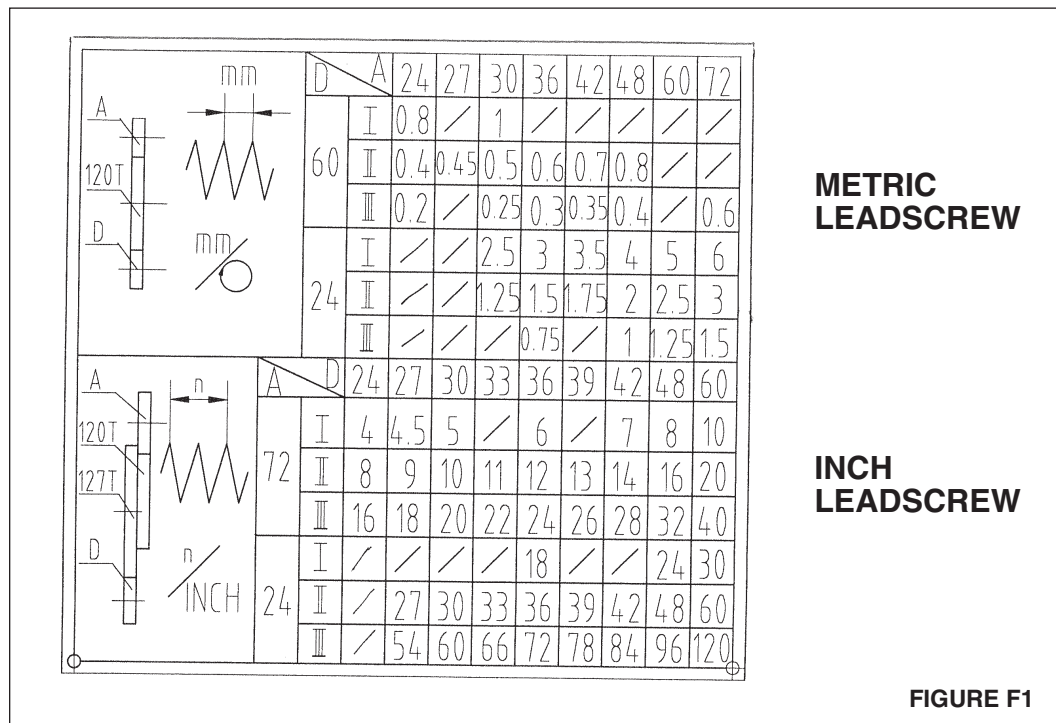
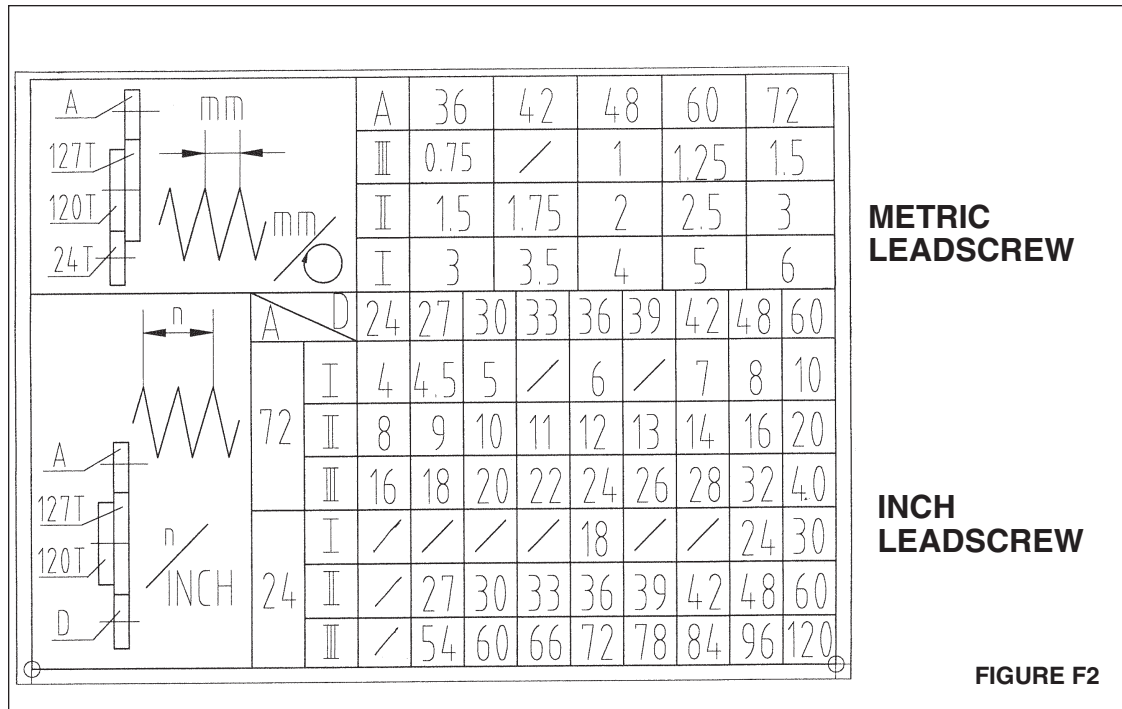

FIGURE F1
FIGURE F2
2. Turn the Lead Screw Lever (1) to the left. Turn the Half Nut's Lever (22) to its clutching position. Thread cutting can now be made.
**NOTE:** Different thread pitch (by inch or metric) can be made by changing the Change Lever (3, Figure B) and Gear A, B, C, or D. (See Figure F1 and page 13, figure F2.)